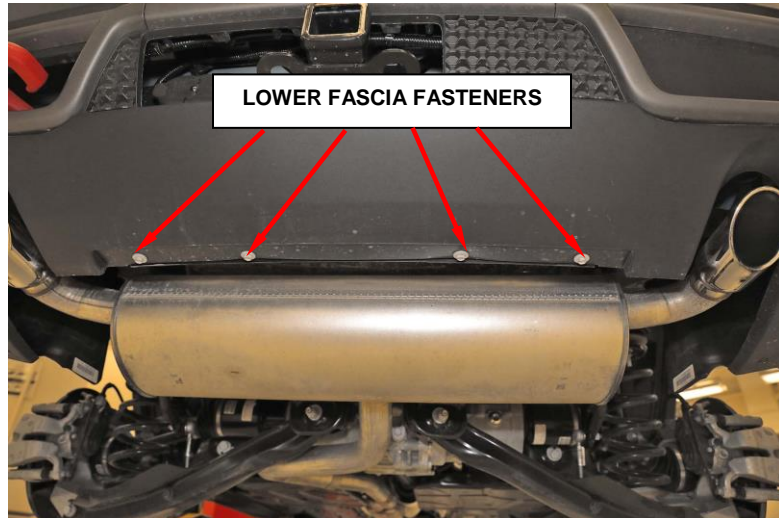

Figure 12 – Lower Fascia Fasteners
7. Remove the four lower fasteners (Figure 12).
24. Install the four fasteners that secure the rear fascia assembly to the underbody (Figure 12).